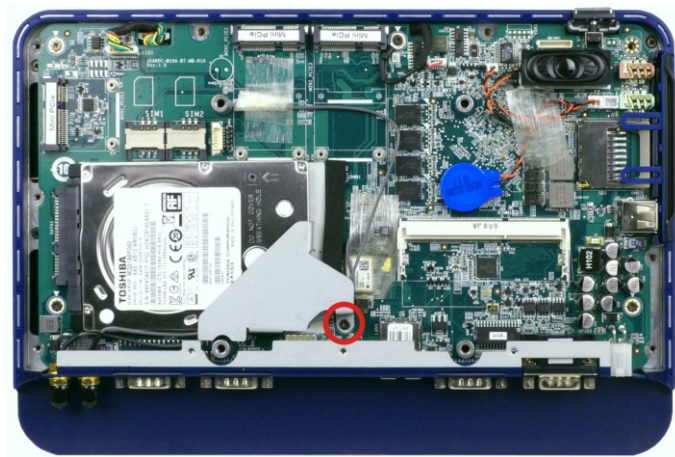

Figure 3-8: Secure HDD with Holder Bracket
Step 5: Secure the HDD with the holder bracket by fastening the previously removed retention screw (**Figure 3-8**).